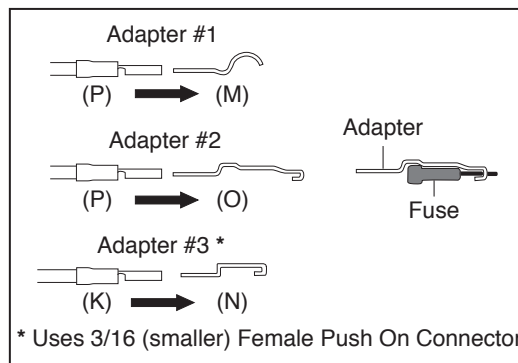

fig. 16
- c. Connection to the fuse terminal will depend on what type of fuse your vehicle uses. If your vehicle uses the barrel type fuse, use adapter #1. If you have the standard spade type fuses, use adapter #2. Many late model vehicles use a smaller spade type fuse which requires adapter #3 (fig. 16). If you use adapter #1 or #2 you will need to crimp on a 1/4” (14-16GA) female connector supplied in kit. If you use adapter #3 you will need to crimp on 3/16” (14-16GA) female connector supplied in kit.